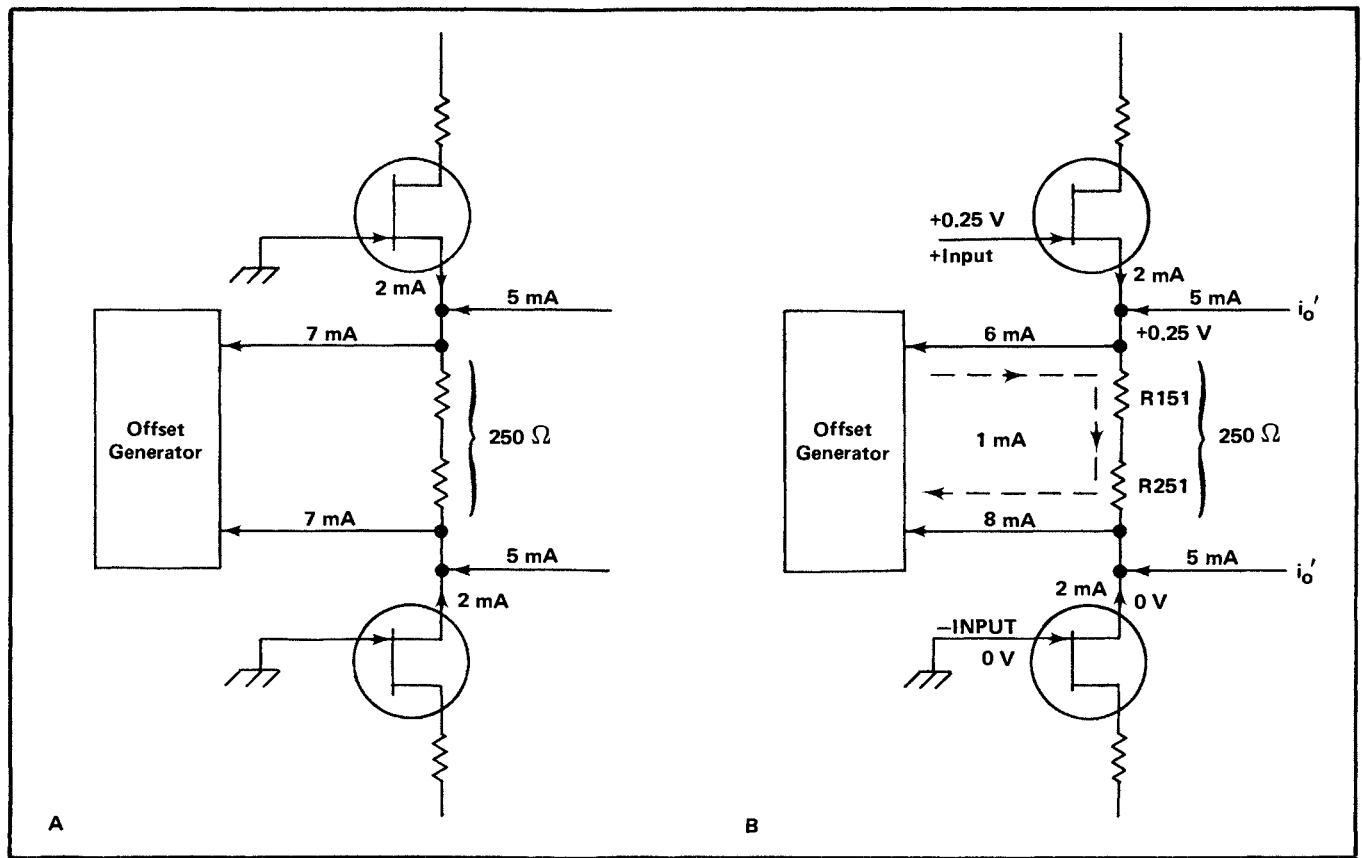

Fig. 3-9. Offset system showing (A) Conditions with zero offset, (B) 0.25 V DC offset.
**DC Offset.** The purpose of the DC offset system is to allow a differential slideback measurement, i.e.: to buck out small DC components of input signals and allow the amplifier to amplify only the varying components, while keeping the differential capability. This means that when a DC voltage is applied across the inputs, some means must be found to balance out the resultant output current. Fig. 3-9 illustrates how this is done.